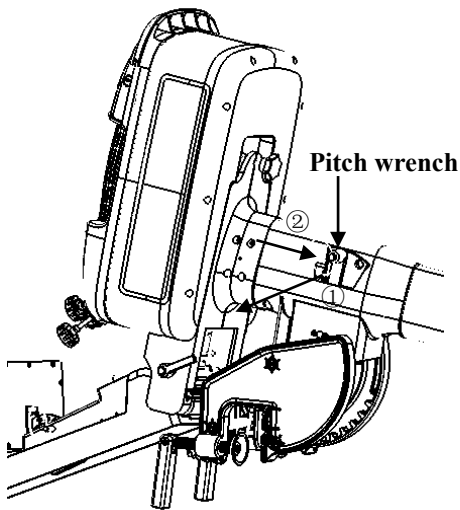

Figure 3-13
2. Pull out the Pitch Wrench, as shown in Figure 3-13.